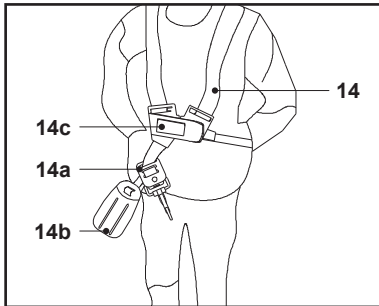

Fig. 10
1. Adjust the position of the suspension sleeve (10) if necessary. Make sure it is well fixed on the upper pole (9) before operation.
2. Place the harness (14) so that
- the belts must be tensioned in a way that the load is distributed evenly on the shoulders (Figs. 10, 11).